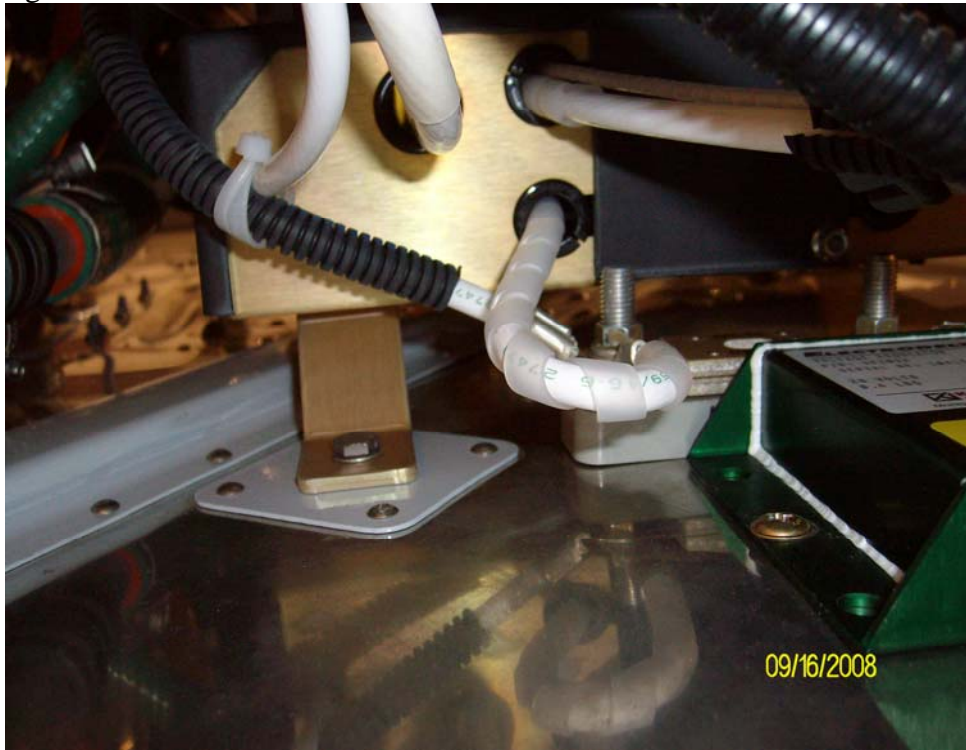

Figure 11- Bottom of Lamar box showing snap bushing and cover modification.
- b) A snap bushing has been provided to protect wiring into the Lamar box. See figure 11.